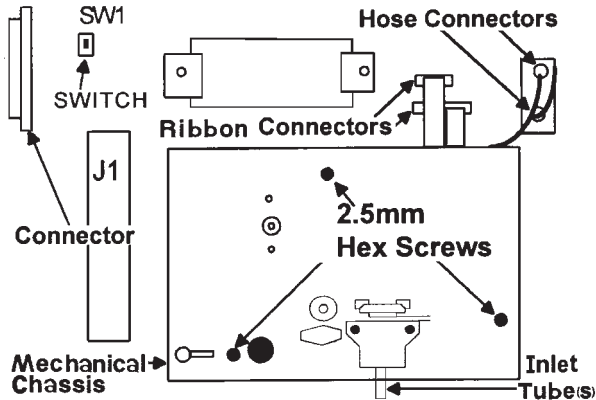

Figure 4-8. Mechanical Chassis
4.11.2 REMOVAL OF THE MECHANICAL CHASSIS. Remove the cassette, undo the two ribbon cable connectors and the two hose couplings in the tubes that connect the chassis to the body of the instrument. Undo the three (captive) cap head screws that secure the chassis (see Figure 4-8). A 2.5 mm hex key is required for this. The mechanical chassis can now be lifted out.